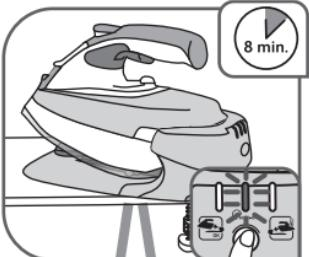

Fig. 16*
- Flashing orange light (according to model): Auto-Off function activated (see the section "Auto-Off safety") – fig.16.
- To restart the iron, simply press the RESTART button on the display panel – fig.16.